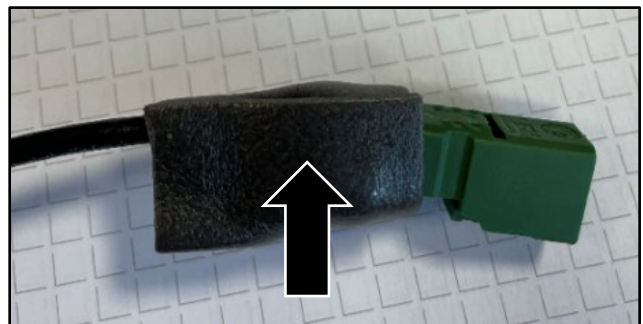

Figure 8
11. Carefully apply the foam around the ferrite (refer to Figure 8).